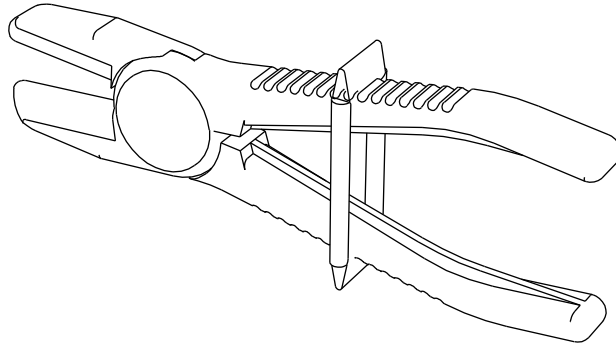

Figure 4.25 – Flow Restrictor Clamp
5. Two flow restrictor clamps per Figure 4.25 are provided with the spare parts kit of each drive.
Also required are two (2) pieces of 3/8" hose (included) in spare parts kit and four (4) M10 bolts with a length from 10 to 30 mm for use as plugs in the 3/8" hose (not included). See Figure 4.25. M10 bolts must be clean.